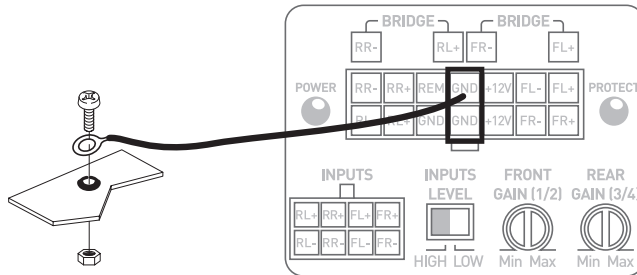

fig. 2
- 10 - Prepare the chassis ground by scraping off any traces of paint on the metal surface in order to ensure proper grounding. The grounding connections should also be as short as possible and ALWAYS be connected to metal welded to the body or the chassis of the vehicle (*fig.2*). The ground point which is generally chosen is the one connecting the negative terminal of the battery to the chassis of the vehicle.
**3.3.2** – Get the negative power cable (-). This cable should be as short as possible and ideally shouldn't be any longer than 3ft (1m), to ensure a perfect connection between the amplifier and the chassis of the vehicle. The cable and wire gauge must comply with the table in section 3.1. Find a suitable grounding point, then sand it to remove any traces of paint or other coating in order to optimise the quality of the contact point. Drill a hole in the metal that you have previously sanded, making a hole the same diameter as the screw you are using, making sure that there are no fuel lines, cables or any other sensitive vehicle devices nearby. Solder the ground cable to the wiring harness supplied for your IMPULSE 4.320 amplifier and isolate using heat-shrink tubing (*fig. 2*).